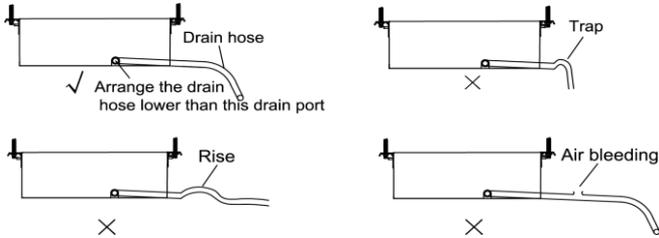

Fig. 4.21
- (1) Install the drain hose with downward gradient (1/50 to 1/100) and no risers or traps are used for the hose (Fig. 4.21).
- (2) Be sure there is no crack or leak on the drain hose to avoid the formation of air pocket (Fig. 4.21).